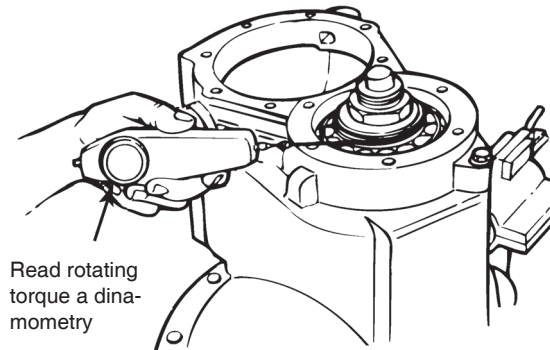

Figure 5.17
3. Pull the dynamometry scale and cord in a horizontal direction while looking at the reading on the spring scale. Figure 5.17.